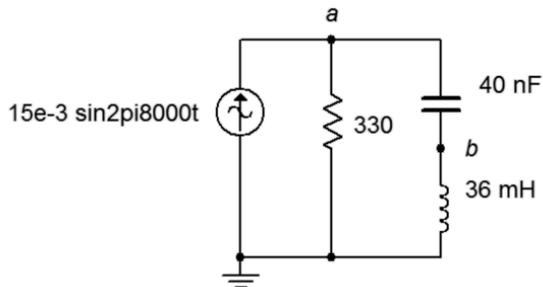

Figure 4.14
21. For the circuit of Figure 4.14, determine voltages  $v_a$  and  $v_b$ .
22. For the circuit of Figure 4.14, determine the middle and right branch currents and draw a phasor diagram of three circuit currents.